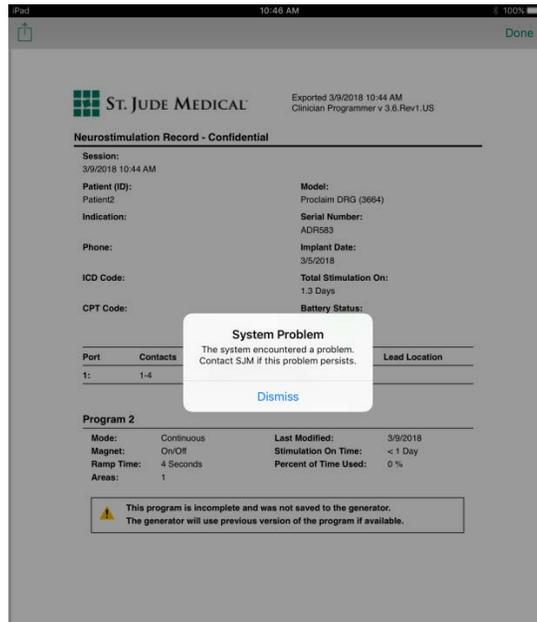

Figure 1: Clinical Programmer Error Message
Figure 1 shows the error message on the Clinician Programmer (CP) which is displayed when an impedance check is attempted. This error message will also display on the CP or PC if entry into MRI mode is attempted.